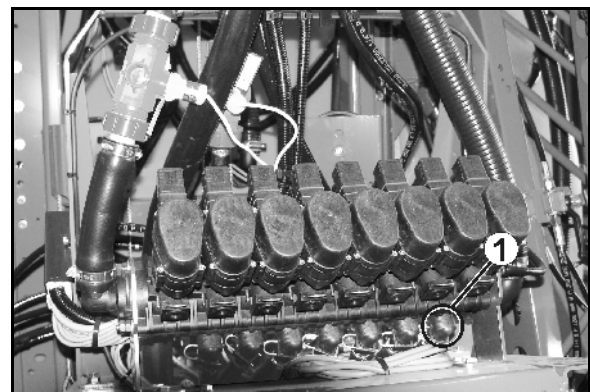

Fig. 124
13. Remove all the spray lines from the part width section valves (Fig. 124/1) and blow out with compressed air.